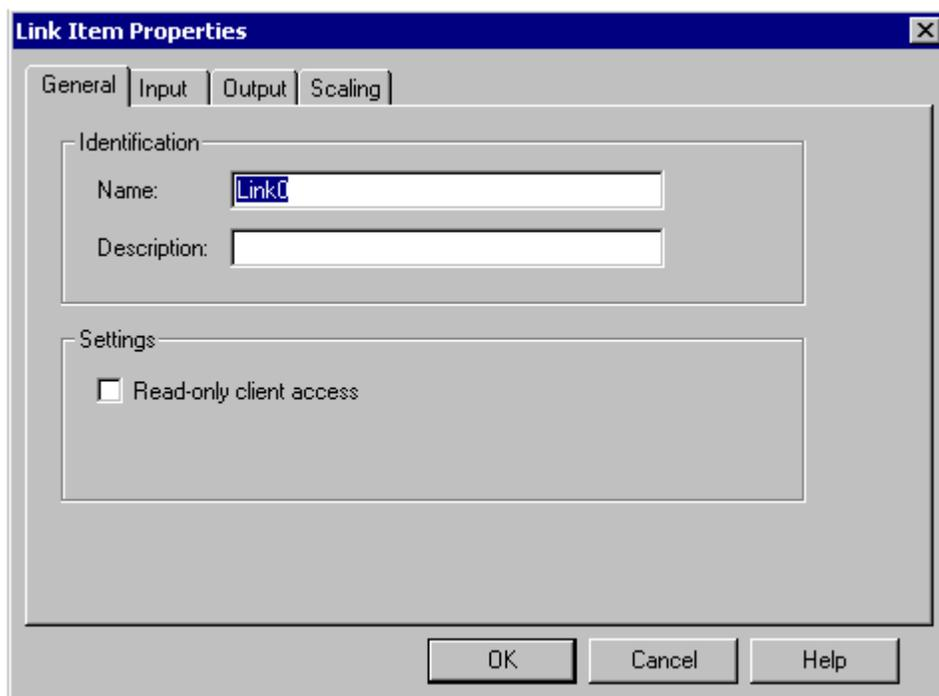
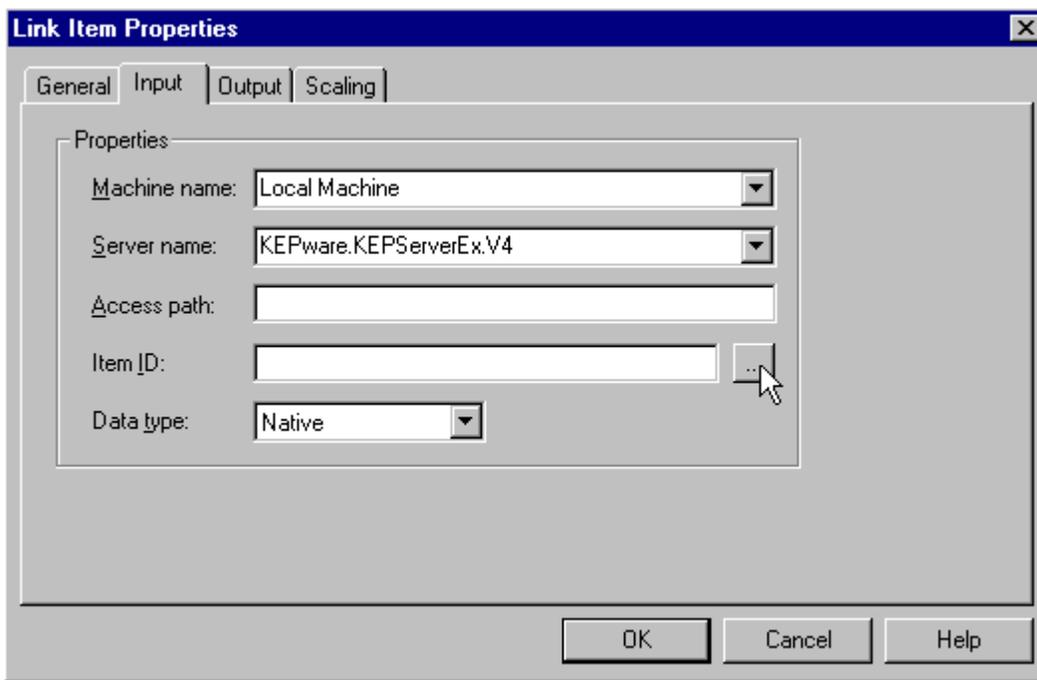

**Figure 1.2 - Add Link by toolbar select New Link icon**
**Figure 1.3 - Add New Link by Menu**
2. Next, either click **Edit** and select **New Link** or click on the Toolbar's **New Link** icon. There are two methods for adding new links to projects, as shown in Figure 1.2 and Figure 1.3 below.